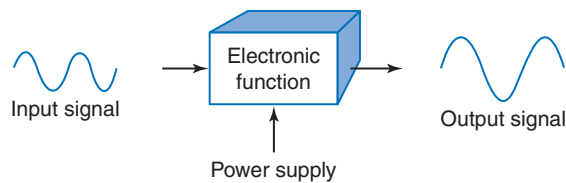

Fig. 1-5 One block of a block diagram.
Figure 1-5 shows one block of a block diagram for you to see the process. Troubleshooting is often a series of simple yes or no decisions. For example, is the output signal shown in Fig. 1-5 normal? If so, there is no need to troubleshoot that circuit function. If it is not normal, four possibilities exist: (1) a power supply problem, (2) an input signal problem, (3) the block (function) is defective, or (4) some combination of these three items. Voltmeters and/or oscilloscopes are generally used to verify the power supply and the input signal to a block. If the supply and input signals are normal, then the block can be replaced or component-level troubleshooting on that circuit function can begin. The following chapters in this book detail how electronic circuits work and cover component-level troubleshooting.